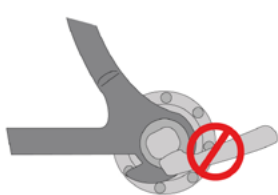

Figure 11
- Press the wheel firmly into the dropouts, align the wheel with respect to the fork, align the quick release lever with the fork arm and then switch it to the closed position. Make sure the quick release lever ends up being parallel to the fork arm as shown on figure 11 and figure 12.
- Place the chain on the smallest sprocket of the cassette. Position the wheel axel in the dropouts and push vigorously as shown on figure 11;